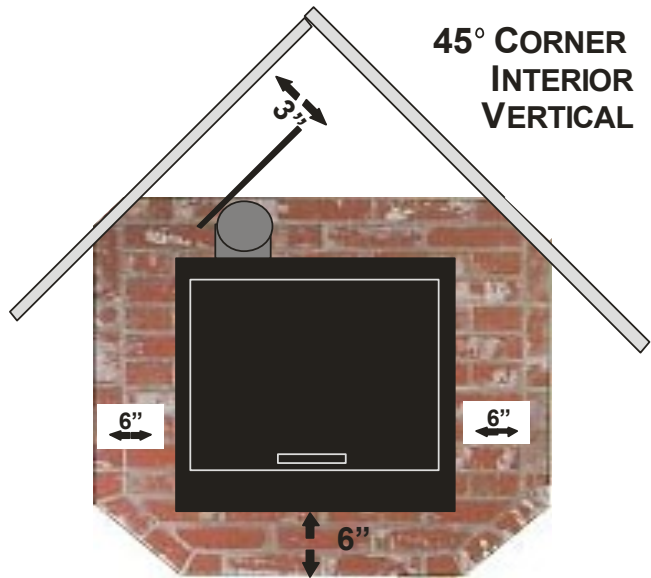

Figure 13
**Note:** If interior vertical vent is used (figure 13), the clearance to the back wall is determined by the upward-turned “Clean Out Tee”. It will vary in depth depending on the brand of PL vent used. Before placing the stove, connect the “Tee” and measure off the 3” clearance.